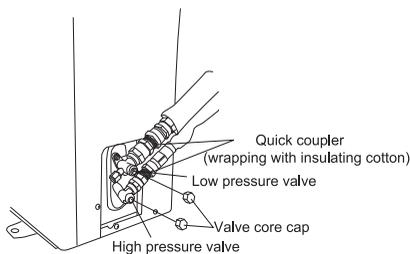

Fig.8
- 4.Turn on the high and low pressure valve cores with a socket wrench.then tighten the two valve core caps of the outdoor unit (Fig.8).